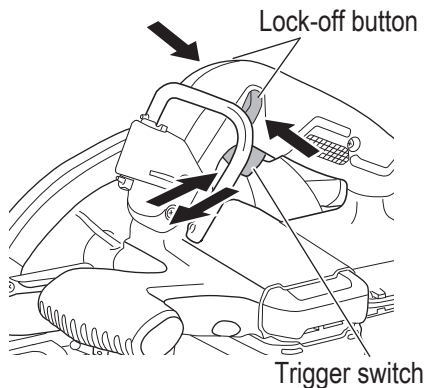

Fig. 21
5. Operation of switch (**Fig. 21**)